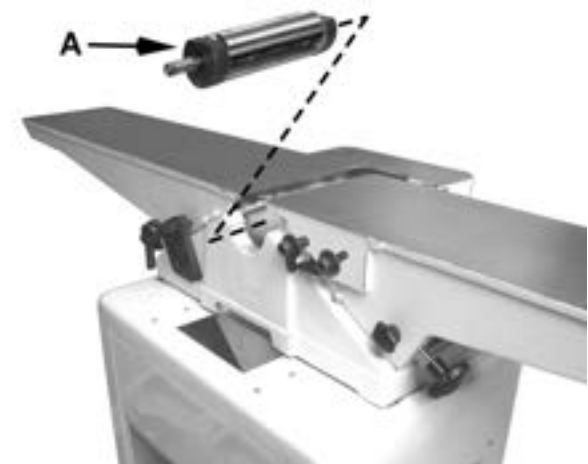

Figure 10-11
11. Carefully remove the *cutterhead* (A, Fig. 10-11).